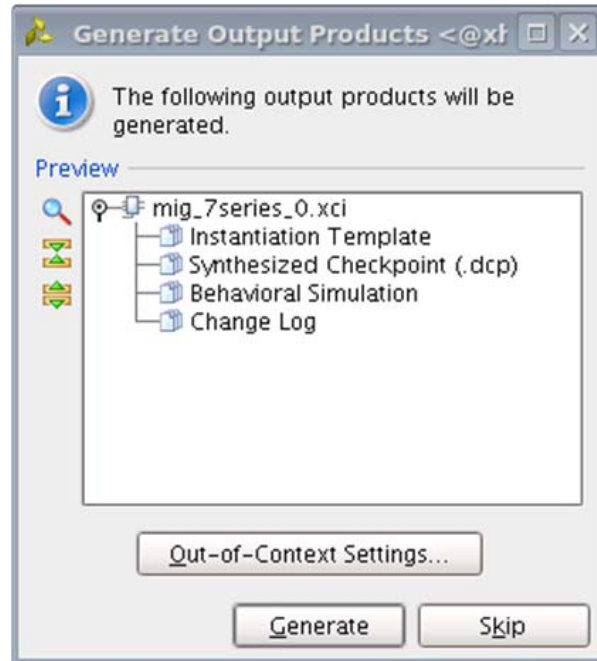

Figure 1-29: **Generate Output Products Window**
1. After clicking **Generate**, the **Generate Output Products** window appears. This window has the **Out-of-Context Settings** as shown in Figure 1-29.